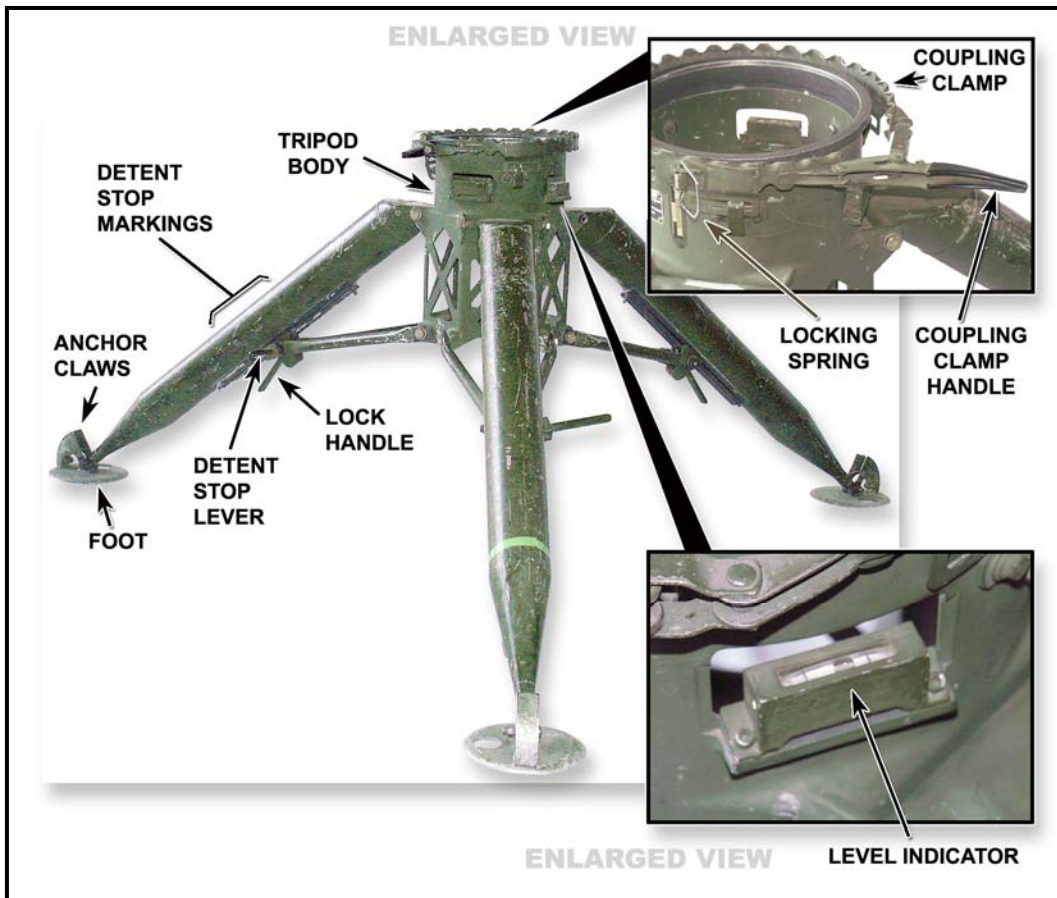
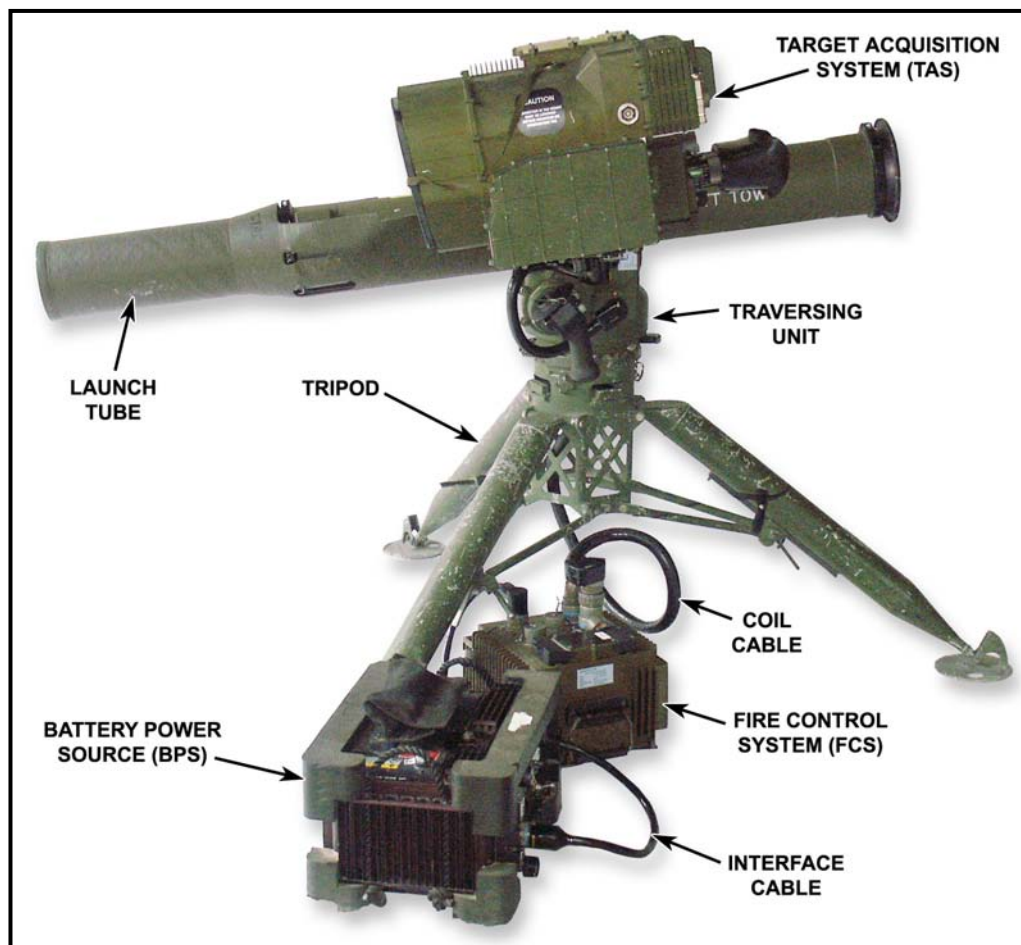

Figure 1-12. ITAS tripod.
Figure 1-13. ITAS tripod configuration.
f. **Tripod.** The ITAS tripod (Figure 1-12, page 1-14) provides a stable platform for the ITAS during dismount operations (Figure 1-13, page 1-15). The major components of the tripod are the coupling clamp, level indicators, and tripod legs.